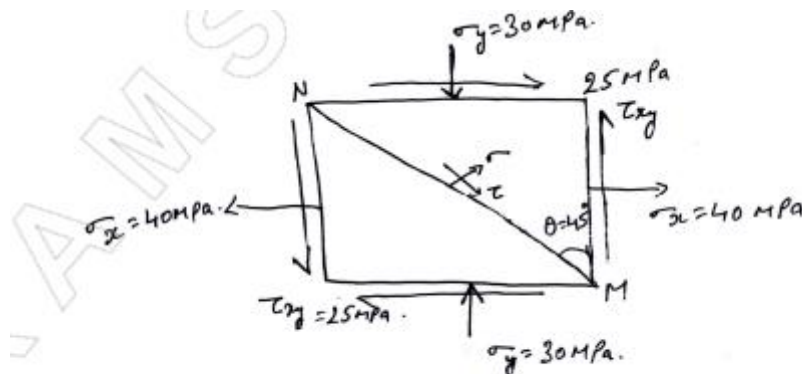

Fig.Q.1(b)
1.b) A point in a structural member subjected to a plane stress is shown in Fig.Q.1(b). Determine the following: i) Normal and Tangential stress intensities on plane MN inclined at an angle  $45^\circ$  ii) Principal stresses and their directions. iii) Maximum shear stress and direction of planes on which it occurs. (14 Marks)